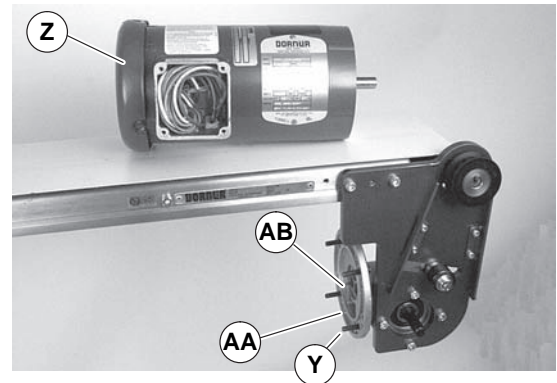

Figure 29
4. Remove four screws (Figure 29, item Y). Detach motor (Z) from gear reducer (AA). Retain motor output shaft key (AB).